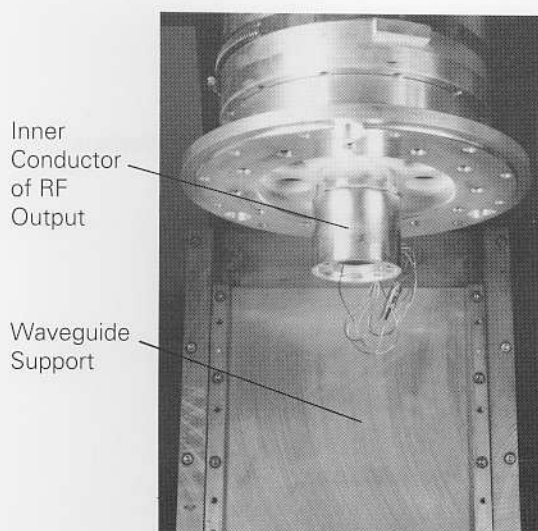

Fig. 23. Coarse Adjustment for Parallelism
- (e) If necessary, slightly rotate the support flange of the klystron (holes are slightly larger-diameter than support studs) until the RF output window of the klystron is parallel with the waveguide support (Fig. 23). This is a coarse adjustment; a fine adjustment is possible later.